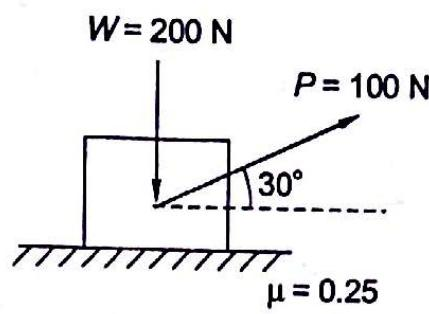

Fig. 6.24
6.1 A block weighing 200 N is lying on a rough surface. An inclined force of 100 N acts on the block. If coefficient of friction between block and surface is 0.3, what is force of friction on block when block tends to slide under the action of force P (Fig. 6.24)?